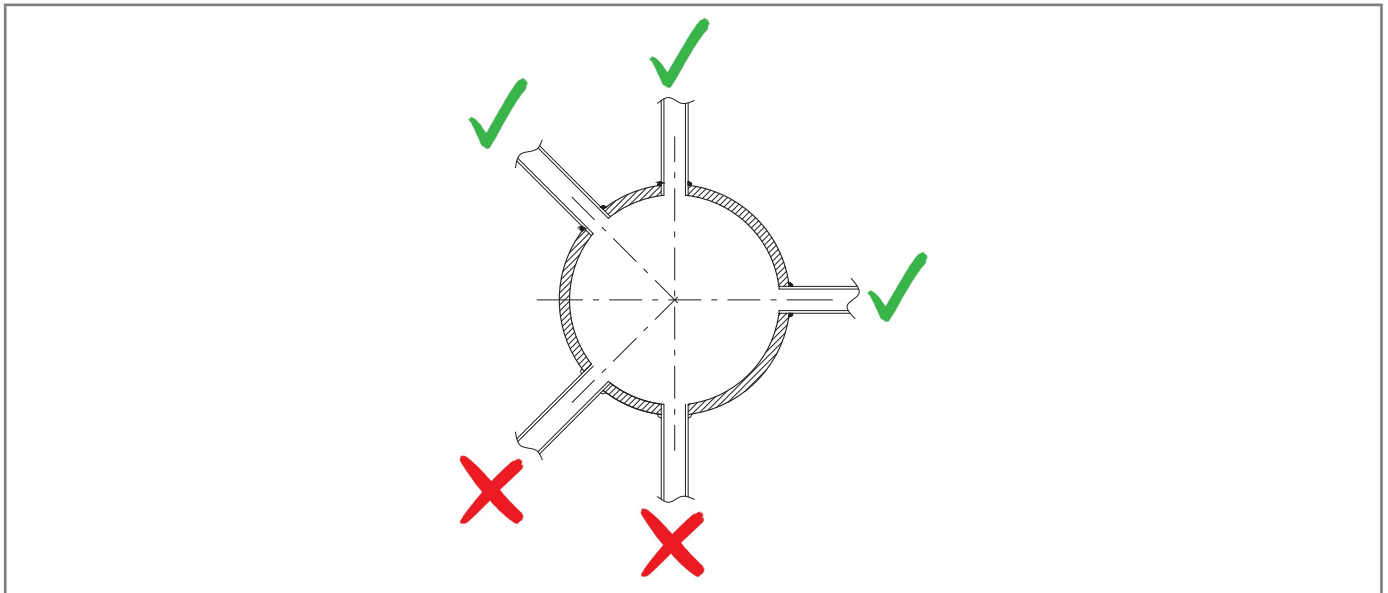

Fig. 6.23. Welded pipe connections
- the pipe connections are always welded on the upper part or at maximum 90 degrees on the axis of the pipe (refer to fig. 6.23);